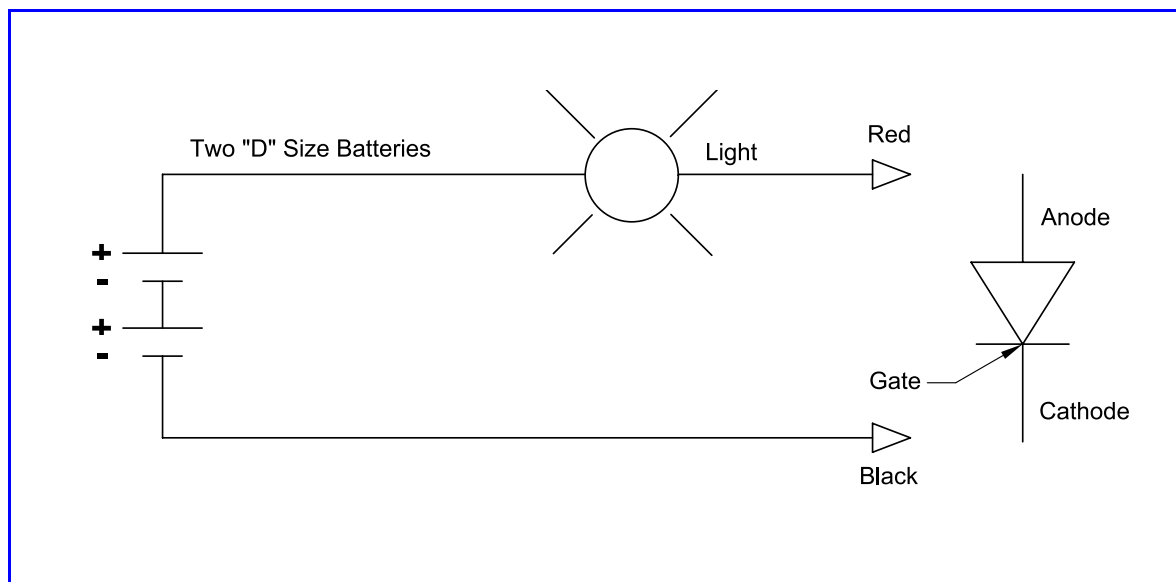

Figure 10 Checking SCR on Test Fixture
4. Build a test fixture. See **Figure 10**.
5. Place the red lead and black lead across the SCR. See **Figure 10**.